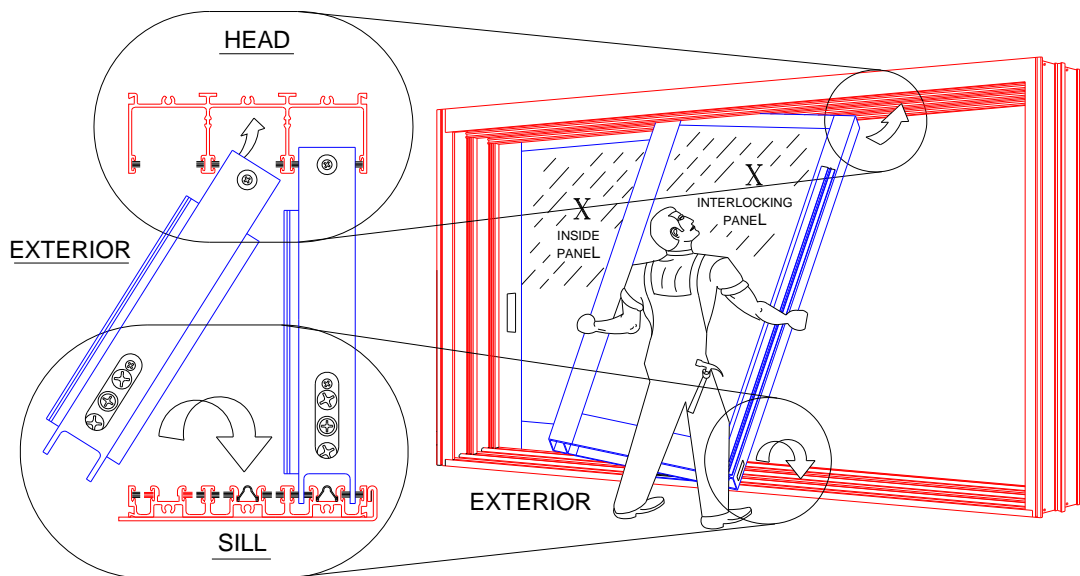

Figure 27:
2. Insert panel (panel located on the track closest to the interior) into the upper head channel (Figure 27). Push up and swing the bottom inward until panel is vertical, then lower panel down onto the track. On PX or XP configurations, if the pocket construction has been completed, it may be necessary to remove the lead stile from the panel before installation into the frame can be accomplished.